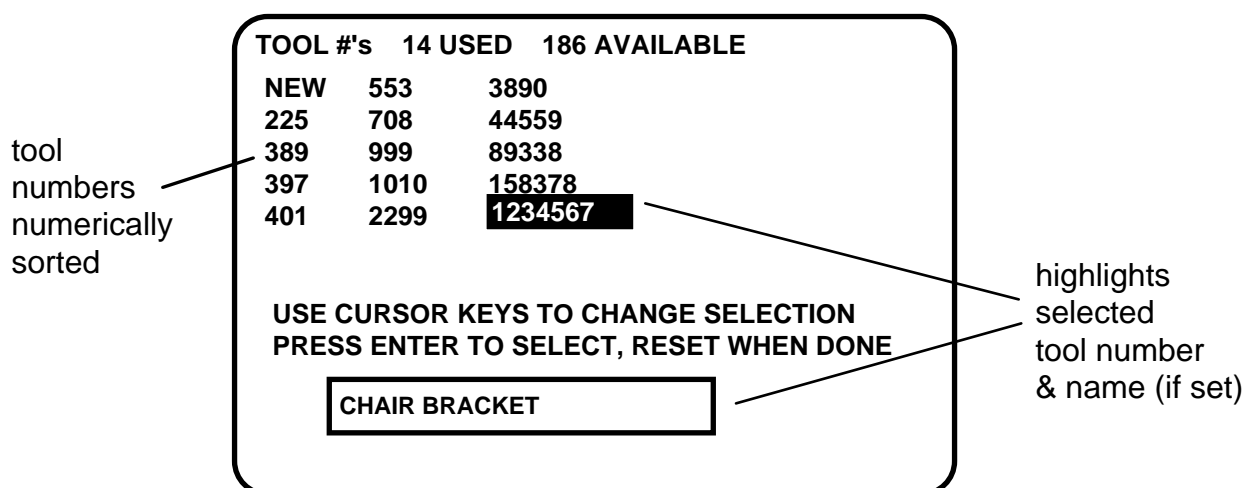

Figure 5-3. Selecting an existing tool number
1. Select the tool number from the tool number display (Figure 5-3). In this example, we are selecting tool #1234567.